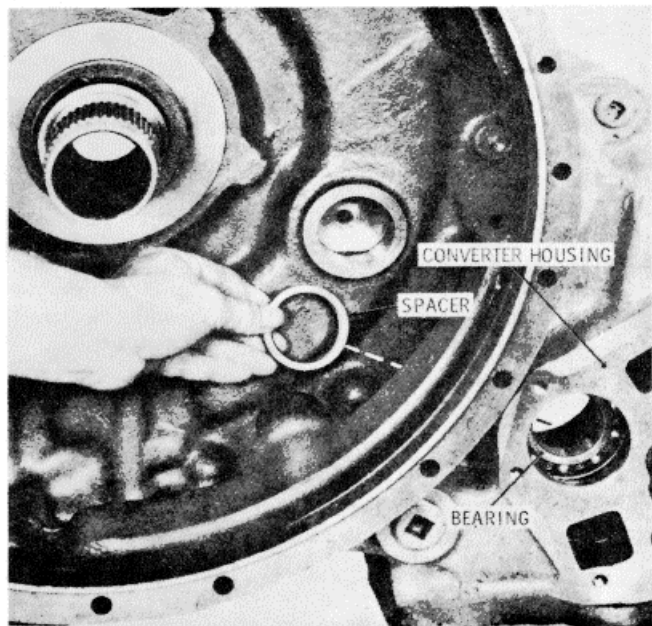

Figure 15-59. Removing Oil Pump Drive Gear Spacer
5. Remove the oil pump drive gear spacer and bearing from the converter housing (Figure 15-59).